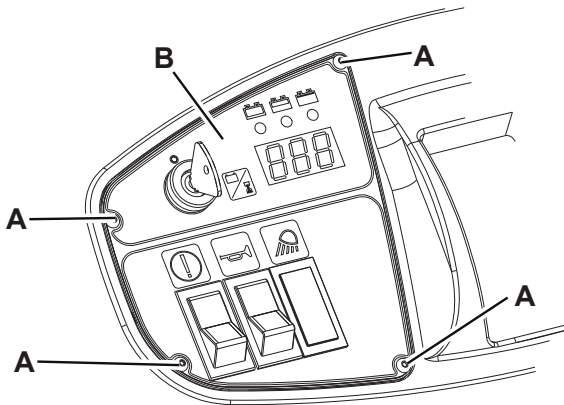

Figure 26
8. Ensure that the battery connector (25) is disconnected.
9. Remove the support rod (36) and close the hood (22).
10. Remove the screws (A, Fig. 26) and carefully remove the right control panel (B).
12. Carefully install the control panel (B, Fig. 26) and the relevant screws (A).
13. Open the hood (22), connect the battery connector (25) and close the hood (22).